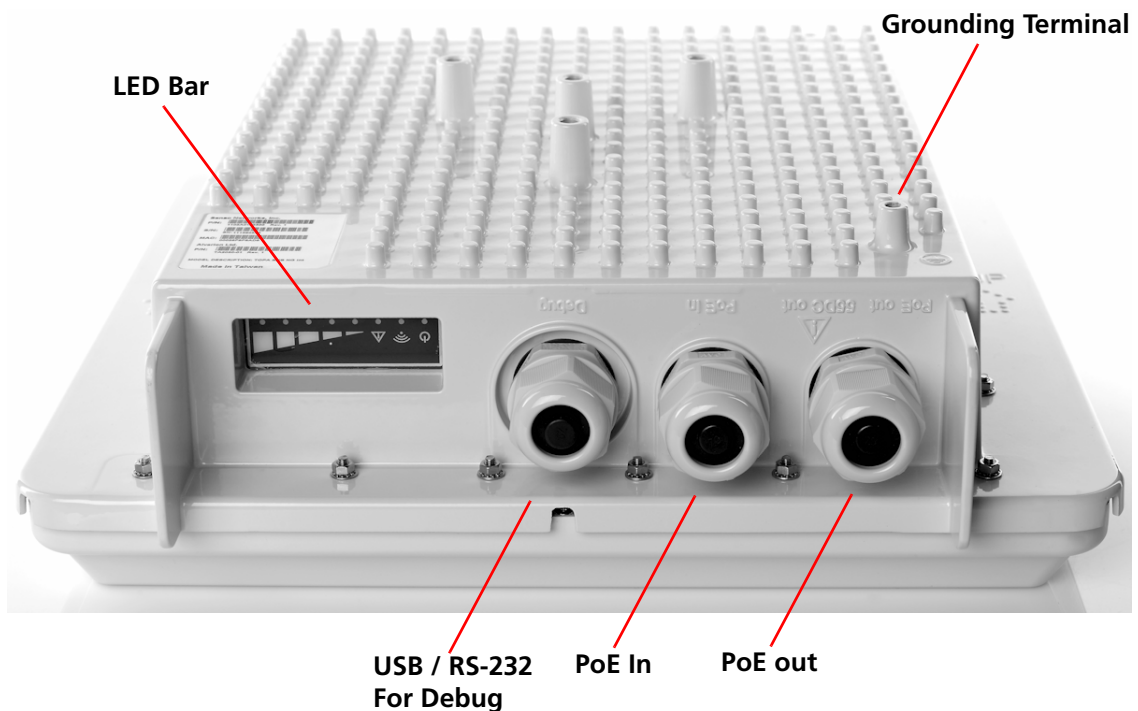

Figure 2-7: Bottom Panel (Shown with Seal Assembly)
- 1 Connect one end of a grounding cable to the grounding terminal (see Figure 2-7) and tighten the grounding screw firmly.